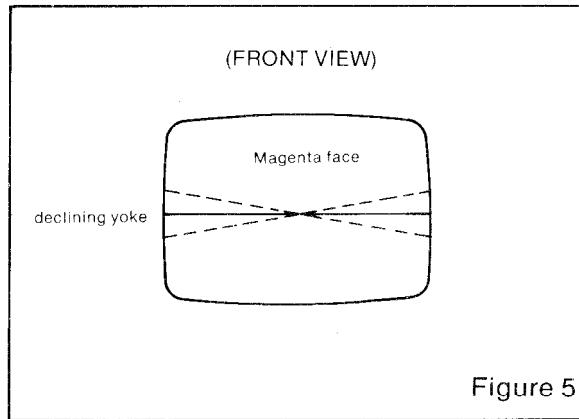

Figure 5
- 1.7 Slide the yoke towards the bell of the picture tube slowly to obtain a uniform magenta field (pure in Fig. 5 color) across the entire tube face. Jiggle back and forth slightly as necessary. Lightly tighten yoke retaining clamp.